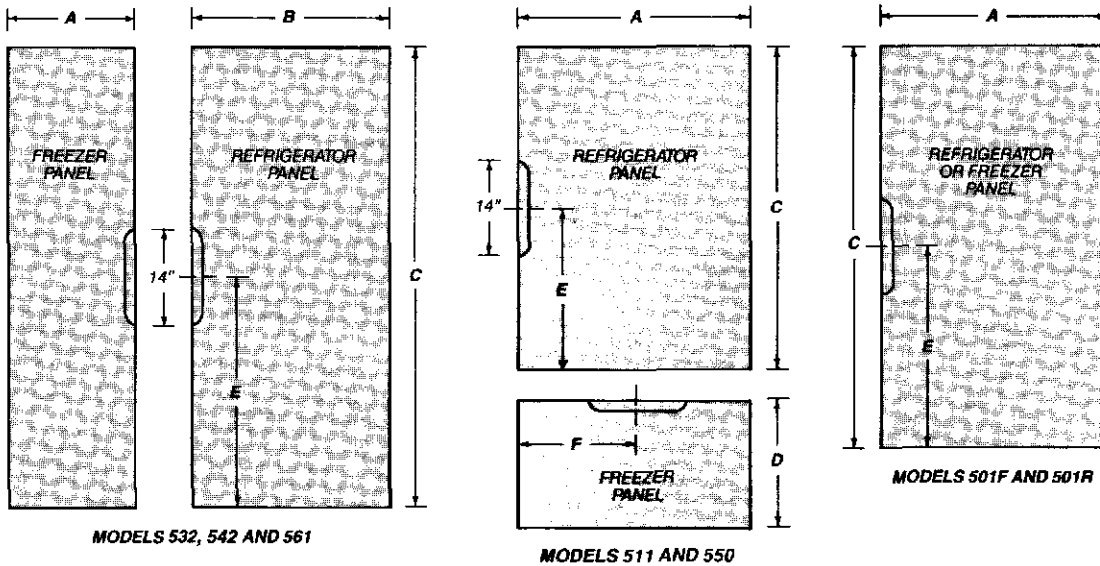

Figure 28
**See Figure 28 for location of offset when using specific routing for grip area only. Figure 29 is actual size top view of standard full length handle and panel. We recommend that you use the grid (Figure 29) to lay out your panel design for finger clearance when standard full length handles are used.**